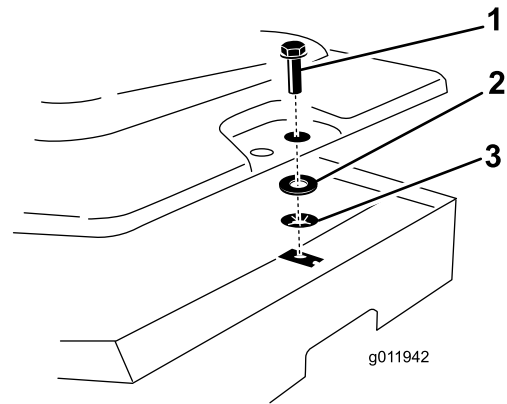

Figure 8
2. Install the existing bolt into the dedicated hole in the belt cover. Install the thrust washer and push nut from underneath to the existing bolt to retain it to the belt cover as shown in Figure 8.